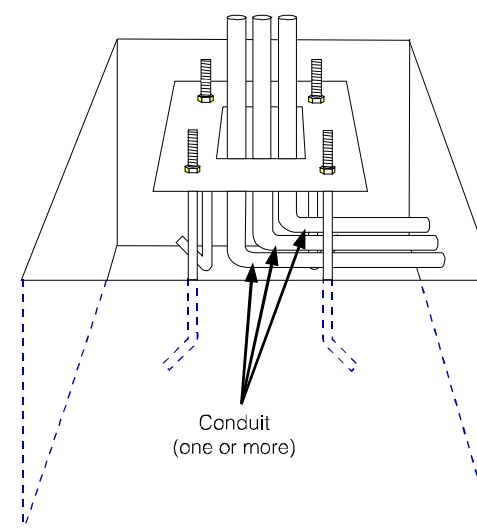

Figure 4. template, anchor bolt and conduit positions in hole
3. Route the conduit (one or more) so it/they will extend through the center of the hole, and upward approximately 6 inches through the center of the template as shown in Figure 4.